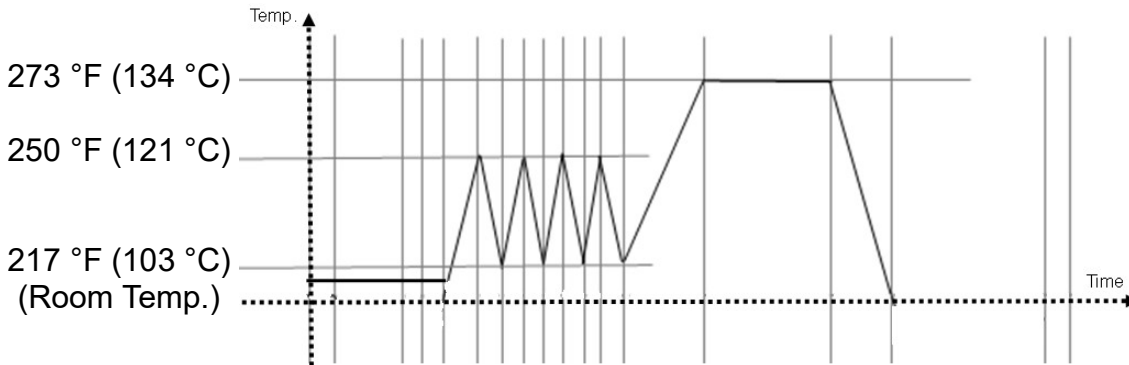

Figure 28
- B. Timing diagram for the B.D. test program as shown in Figure 28.